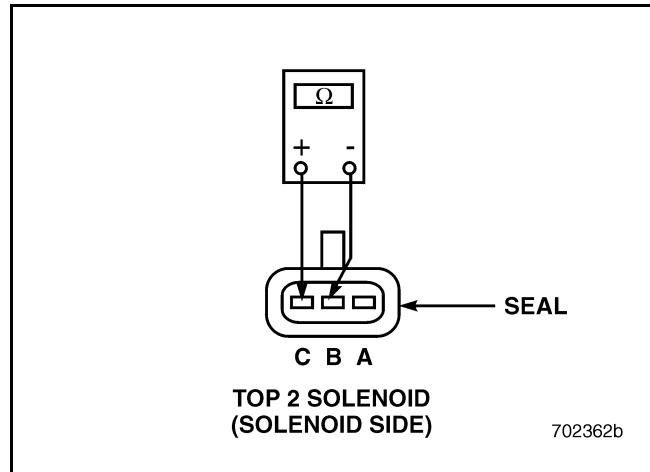

Figure 484
2. Check for continuity between pins B and C on the solenoid side of the Top 2 solenoid valve connector (see Figure 484).